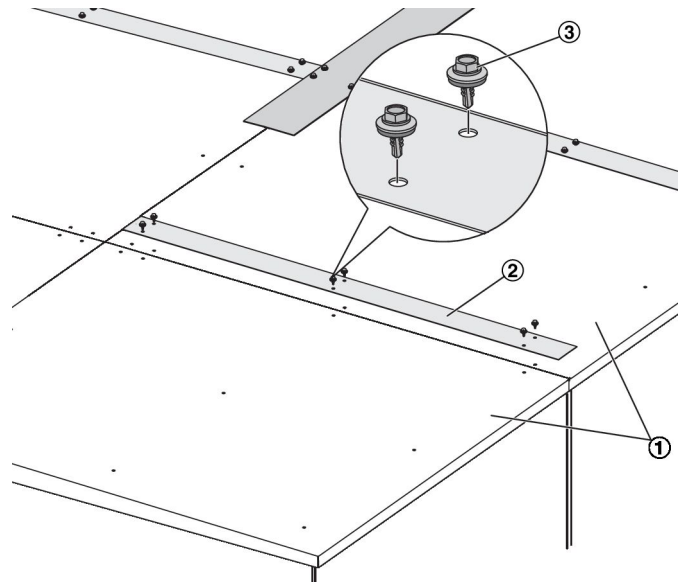

Fig. 18: Joining roof segments
- ① Roof segments
- ② Cover strips
- ③ Self-drilling screws with sealing washers
- ④
- ▶ Connect all joints between the roof segments (Fig. 18 /1) with cover rails (Fig. 18 /3), and fix cover rails with drilling screws (Fig. 18 /4).